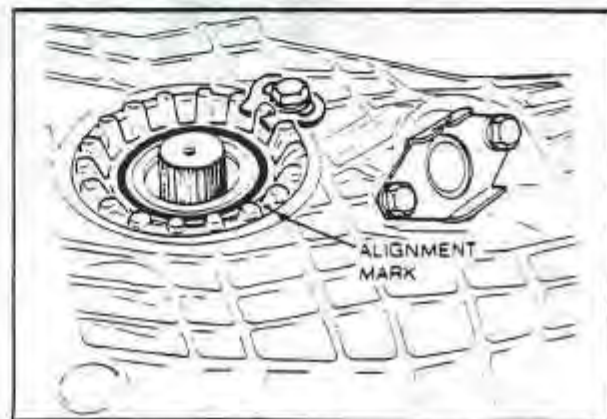

Fig. 23 DIFFERENTIAL ADJUSTING NUT
6. Remove the differential adjusting nut lock plate. Index mark the adjusting nut on the transmission case for installation. *Fig. 23*
3. Thread the adjusting nut into the case. **THE EXACT NUMBER OF TURNS NOTED ON REMOVAL.** Align the index marks and install the adjusting nut lock plate. *Fig. 23*